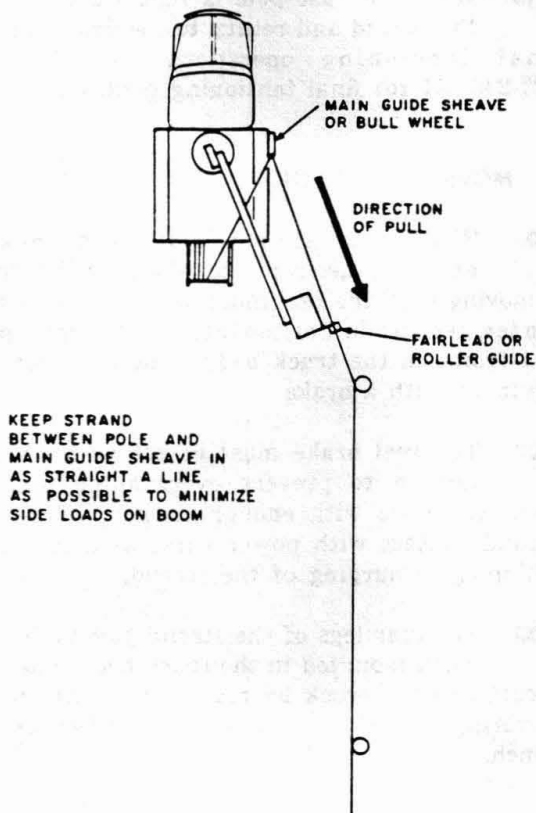

Fig. 1 — Aligning Boom with Direction of Pull
3.05 Move the truck to the second pole while keeping the boom as near as possible in alignment with the direction of pull (Fig. 1). Adjust the amount of tension on the strand as necessary to prevent whipping and to maintain the necessary above-ground clearance.